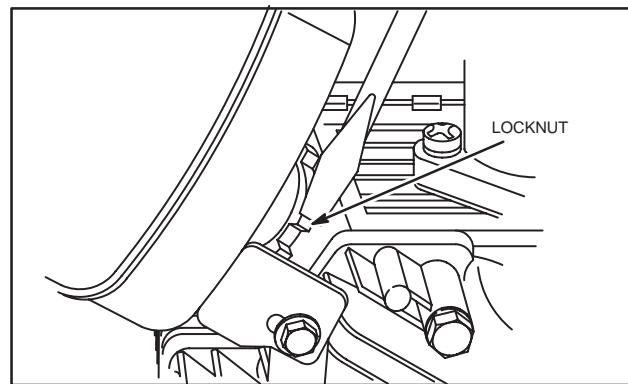

Fig. 24 – Lock Nuts
4. Tighten muffler adapter lock nuts, Fig. 24.
3. Rotate muffler and adapter to desired location and tighten lock nut securely, Fig. 24.